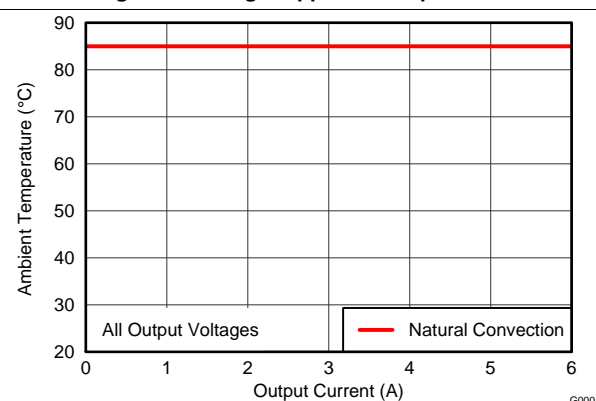

Figure 9. Safe Operating Area
- (11) The temperature derating curves represent the conditions at which internal components are at or below the manufacturer's maximum operating temperatures. Derating limits apply to devices soldered directly to a 100 mm × 100 mm double-sided PCB with 1 oz. copper. Applies to Figure 9.